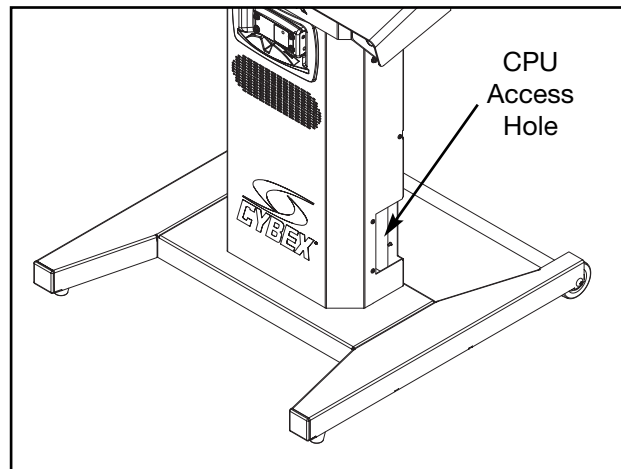

Figure 2
- D. Locate the CPU access hole. See Figure 2.